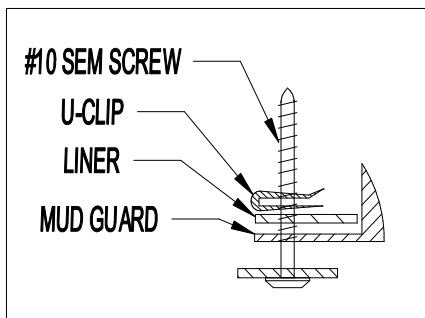

Figure 2
6. Install a #10 SEM screw at location D, thru mud guard, fender liner and into a U-clip placed on the backside of fender liner (Figure 2).